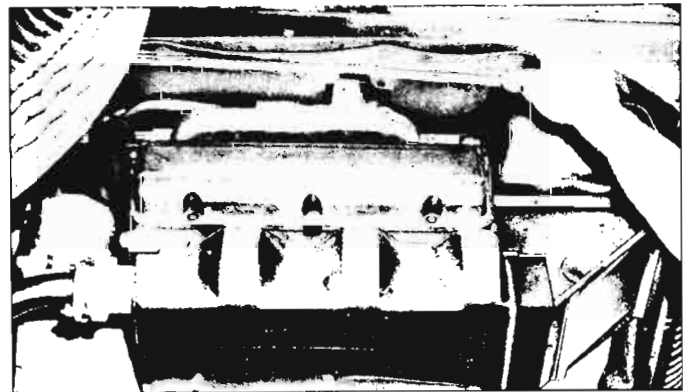

Fig. 6A-14—Removal and Installation of Engine Side Shield
2. Remove oil cooler screws attached to engine side shield assembly ("18", fig. 6A-11). Disconnect radio ground.
4. Remove engine side seal retainer and remove engine side shield assembly, by sliding out from under the upper shroud assembly as shown in Figure 6A-14.
1. Slide engine side shield assembly under the engine upper shroud and into place as shown in Figure 6A-13.
3. Install screw ("A", fig. 6A-13) under carburetor. Install screws attaching engine side shield to the cylinder head. Install radio ground.